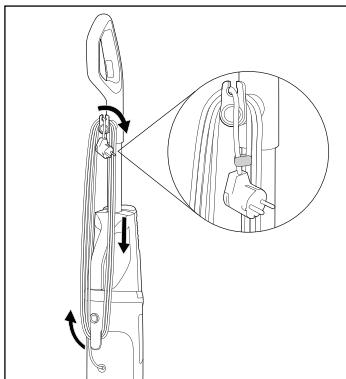

Fig. 3
- ♦ Wind the power cable ⑯ completely around the upper and lower cable retainers ⑯/⑳ (see fig. 3).